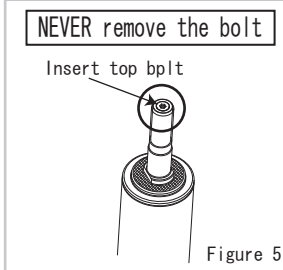
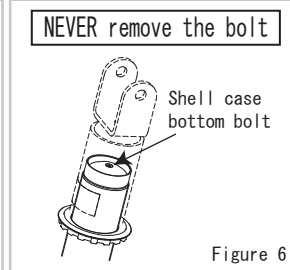

Figure 5
Figure 6
- CAUTION** NEVER remove bolts at the top of the piston rod (Figure 5) and/or at the bottom of the shell case (Figure 6) if any. Removing such bolt might cause enclosed gas to leak and/or inner parts to pop out.